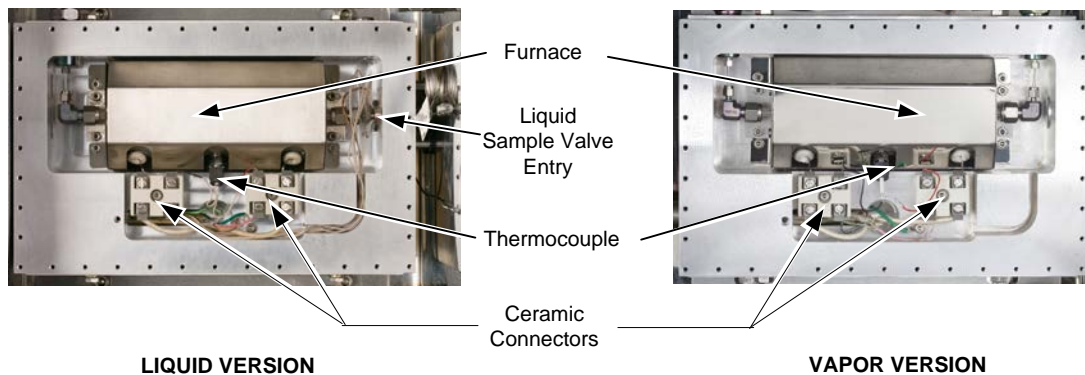

Fig. 8.1. Oven Compartment
8.4 Replacement parts listing (see Figure 8.1)